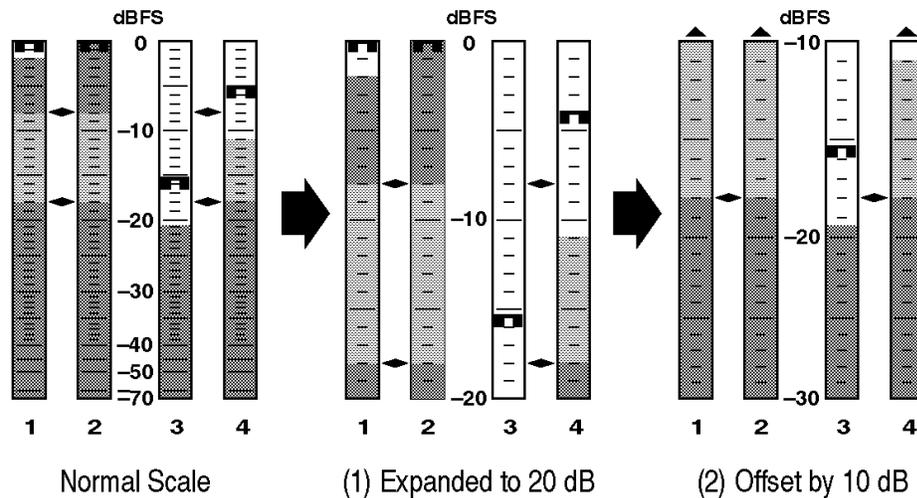

Figure 17: Creating a custom meter scale
**Variable scale.** To adjust either the range or offset of the level meters, press **METER SCALE:EXPAND** or **METER SCALE:OFFSET**, then turn the multi-function knob. For best results (and least confusion), expand the scale to the desired range first, then adjust the offset to view the meter region of interest. For example, to change normal scale to a custom scale showing only the –10 to –30 dBFS range (see Figure 17):